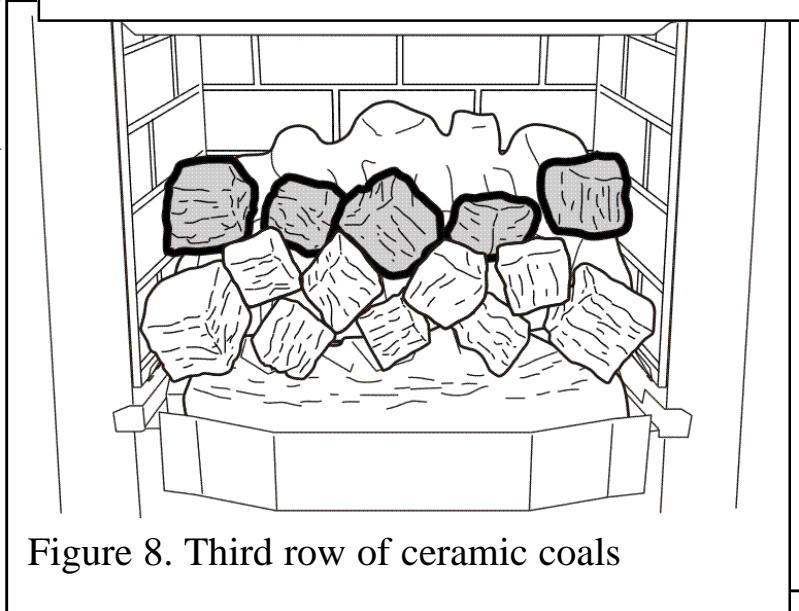

Figure 8. Third row of ceramic coals
6. Place a medium ceramic coal into the central valley in the rear ceramic base. It is important that this medium ceramic coal has a space behind it. Place a small ceramic coal each side of the medium ceramic coal. It is important that these small ceramic coals have a space behind them. (See figure 8).
7. Locate the remaining medium ceramic coals in the valley behind the two large ceramic coals on the front row (See figure 8).